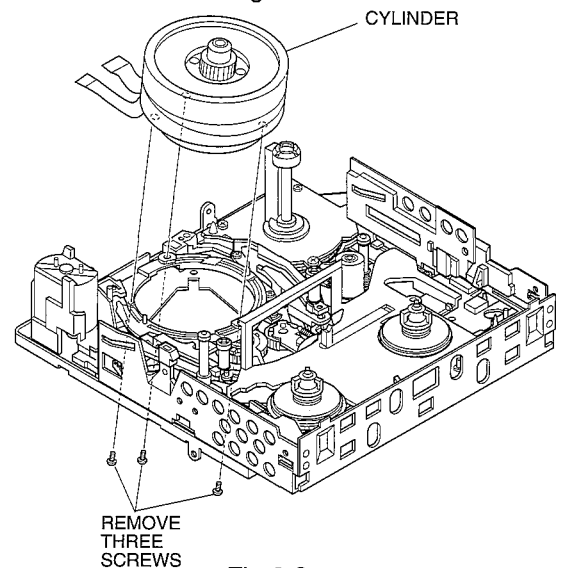

Fig.2-2
- (1) Remove 3 screws. (See Fig. 2-2)